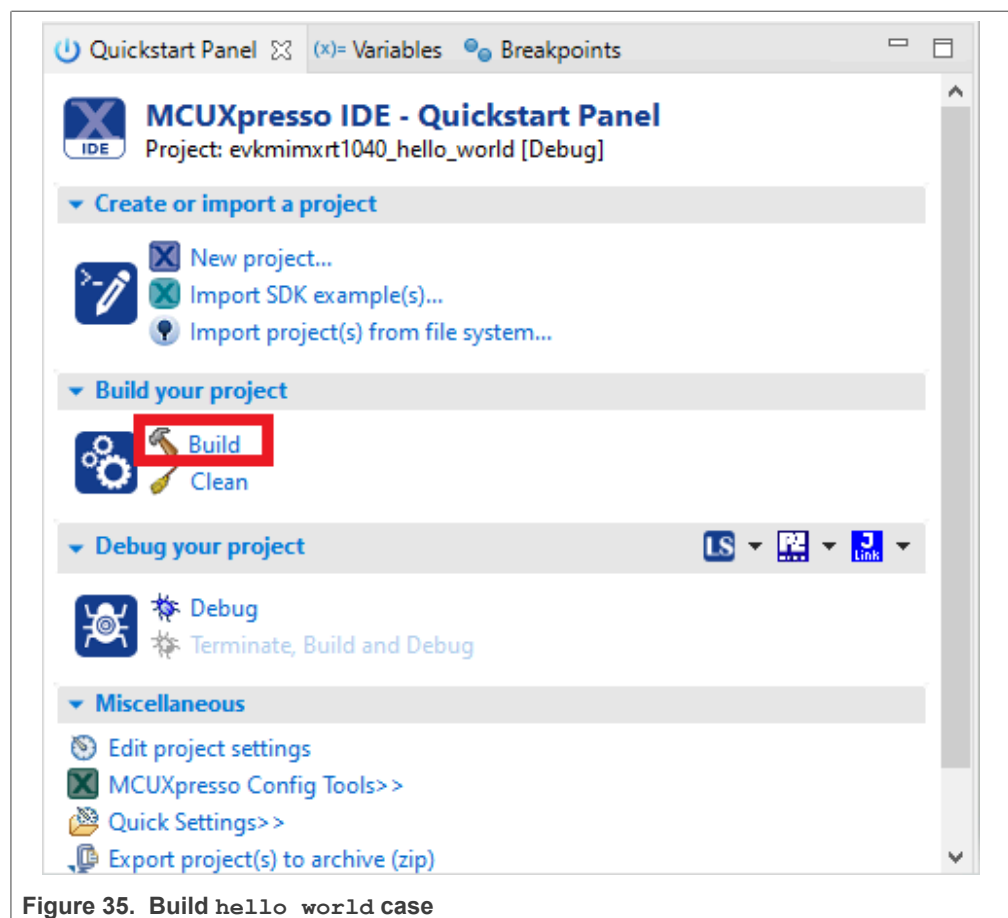

Figure 35. Build hello world case
6. On the **Quickstart** panel, click **build evkmimxrt1040_demo_apps_hello_world [Debug]**, as shown in Figure 35.